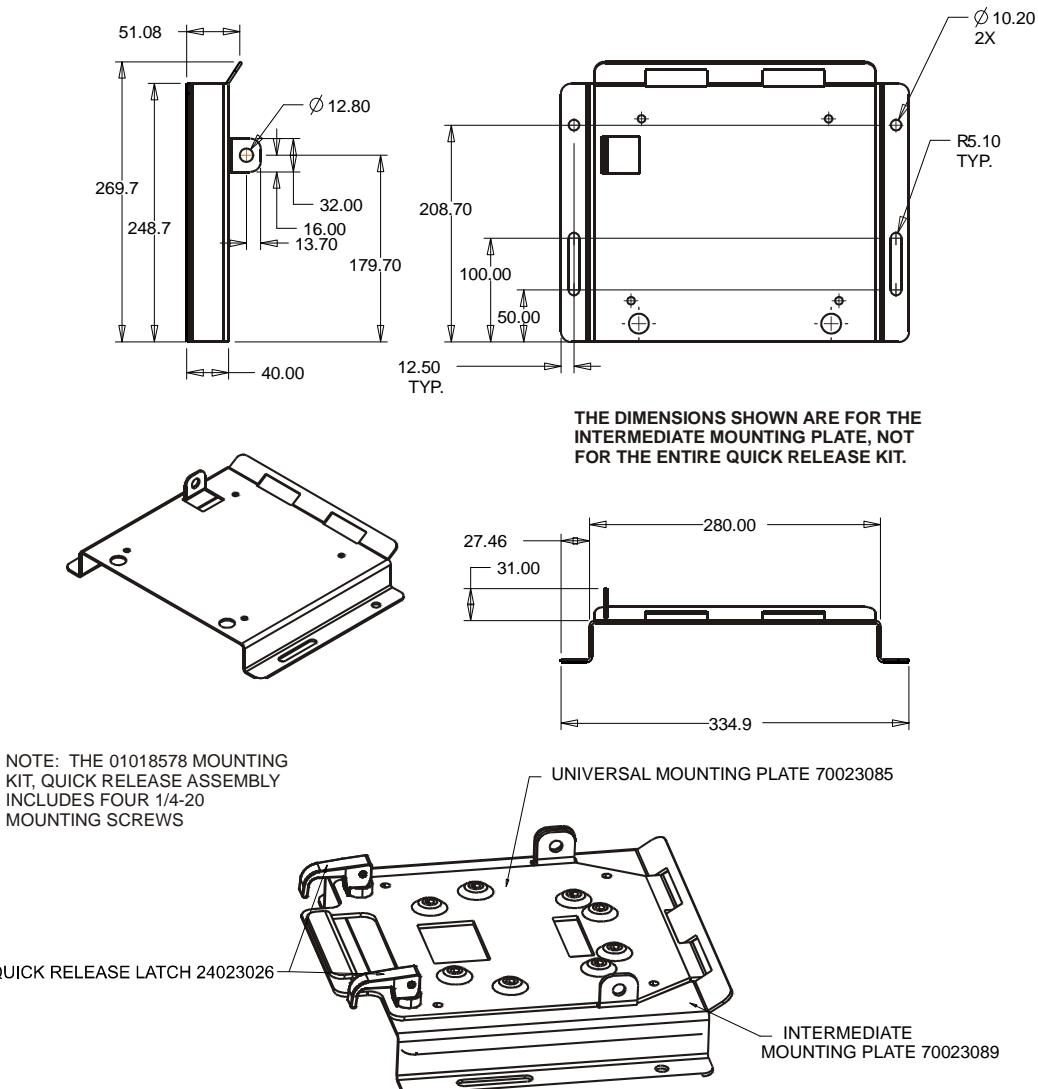

Figure 4: SMART-MR10/15 Mounting Kit, Quick Release Assembly (01018578)
- Mounting Kit, Quick Release Assembly (part number 01018578), shown in *Figure 4* on *page 29*.